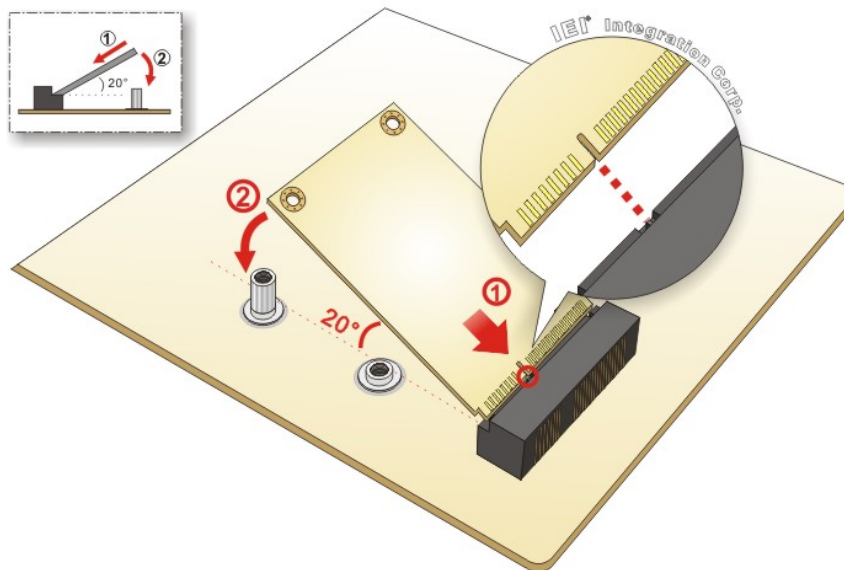

Figure 4-9: Inserting the Full-size PCIe Mini Card into the Slot at an Angle
Step 4: Insert into the socket at an angle. Line up the notch on the card with the notch on the slot. Slide the PCIe Mini card into the socket at an angle of about 20° (**Figure 4-9**).